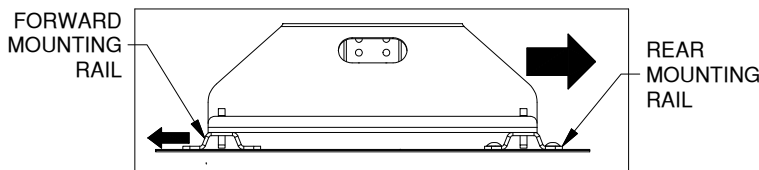

Figure E2: Side view of RV base and mounting rails.
**IMPORTANT:** Before drilling forward mounting holes pull the RV base toward the rear of the truck and push the forward rail toward the cab of the truck to correctly space the mounting rails, see Figure E2.